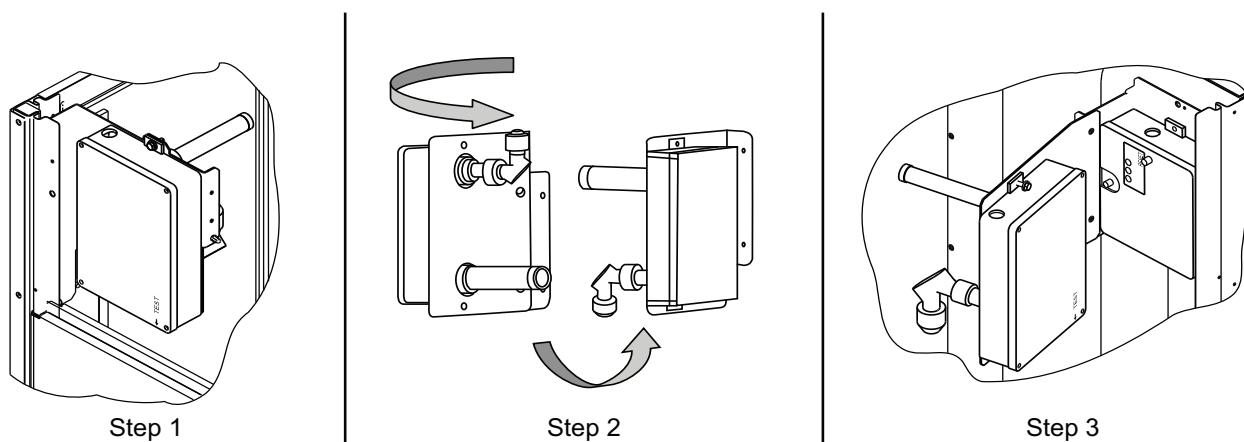

Fig. 63 – Completing Installation of Return Air Smoke Sensor
1. Unscrew the two screws holding the return air smoke detector assembly. See Fig. 63, Step 1. Save the screws.
2. Turn the assembly 90 degrees and then rotate end to end. Make sure that the elbow fitting is pointing down. See Fig. 63, Step 2.
3. Screw the sensor and detector plate into its operating position using screws from Step 1. See Fig. 63, Step 3.